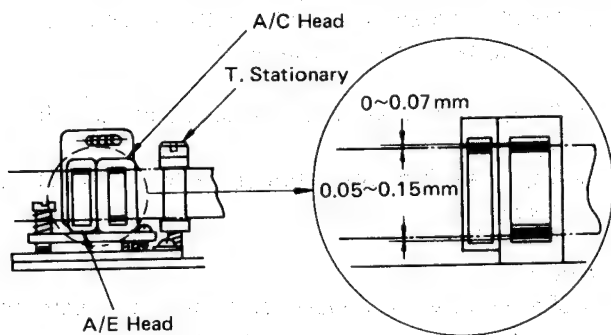

Figure 25
3. Check that the A/C head has the height and tilt shown in Figure 25 with respect to the tape.
- * If there is any abnormality in the travel mode, carry out the following adjustments with reference to Figure 23 and Figure 25.
4. If adjustment is needed, adjust by means of screw ②. Turn screw ② little by little.
5. The height of the A/C head should be positioned with respect to the tape as shown in Figure 25.
6. Adjust the height, tilt, and azimuth of the A/C Head as shown in Figure 25.